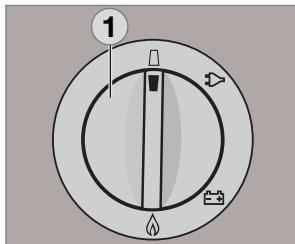

Fig. 45
- For battery igniter models, set energy selector switch (1) to position "OFF". The appliance is switched off (Fig. 45).